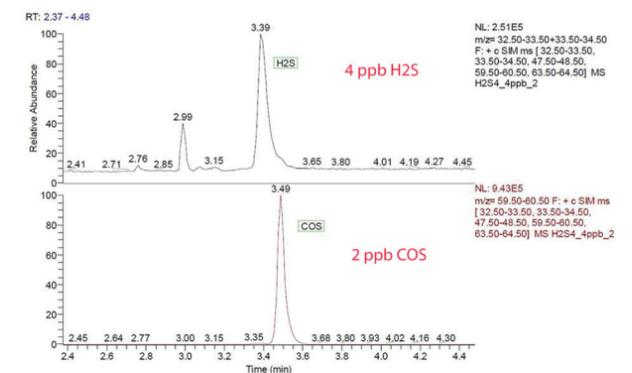
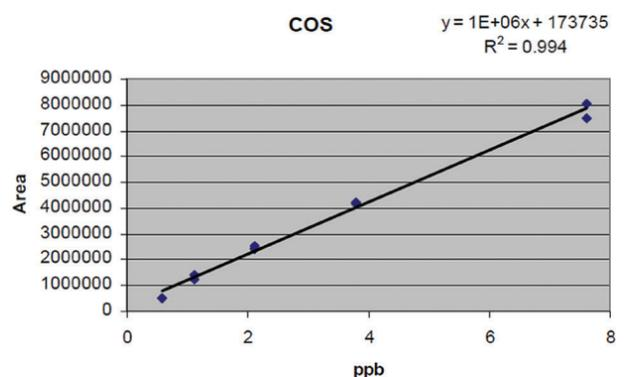

Figure 3: low level ppb Sulphur analysis using GCMS, SIM mode.
Figure 4: GCMS analysis of COS, linearity:  $R^2 = 0.994$  from 2 to 10 ppb.
The Mass Spectrometer is usually not considered for low level Sulphur species analysis; (P)FPD and SCD have traditionally dominated this application. However GC-quadrupole MS is a very interesting alternative, providing in fact better sensitivity and selectivity and positive component identification as added value. Figure 3 shows the mass chromatograms of H2S and COS at low ppb level while figure 4 demonstrates good linearity.